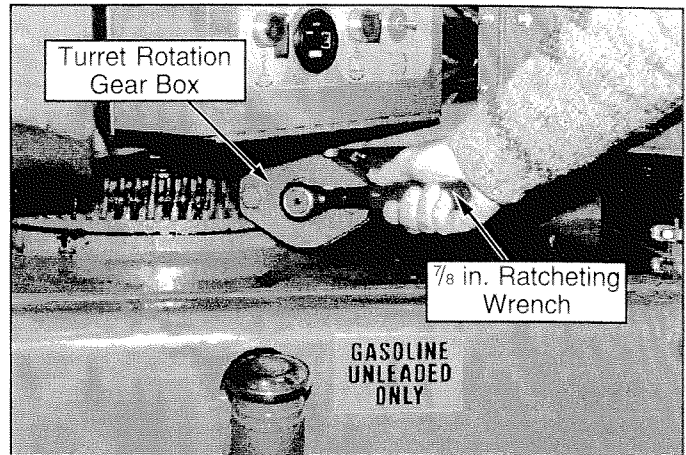

Figure 2-5: Manual Turret Rotation
3. Operate the manual override (knurled knob) on the appropriate valve (see figure 2-5). Push in to lower / extend, pull out to raise / retract as required.